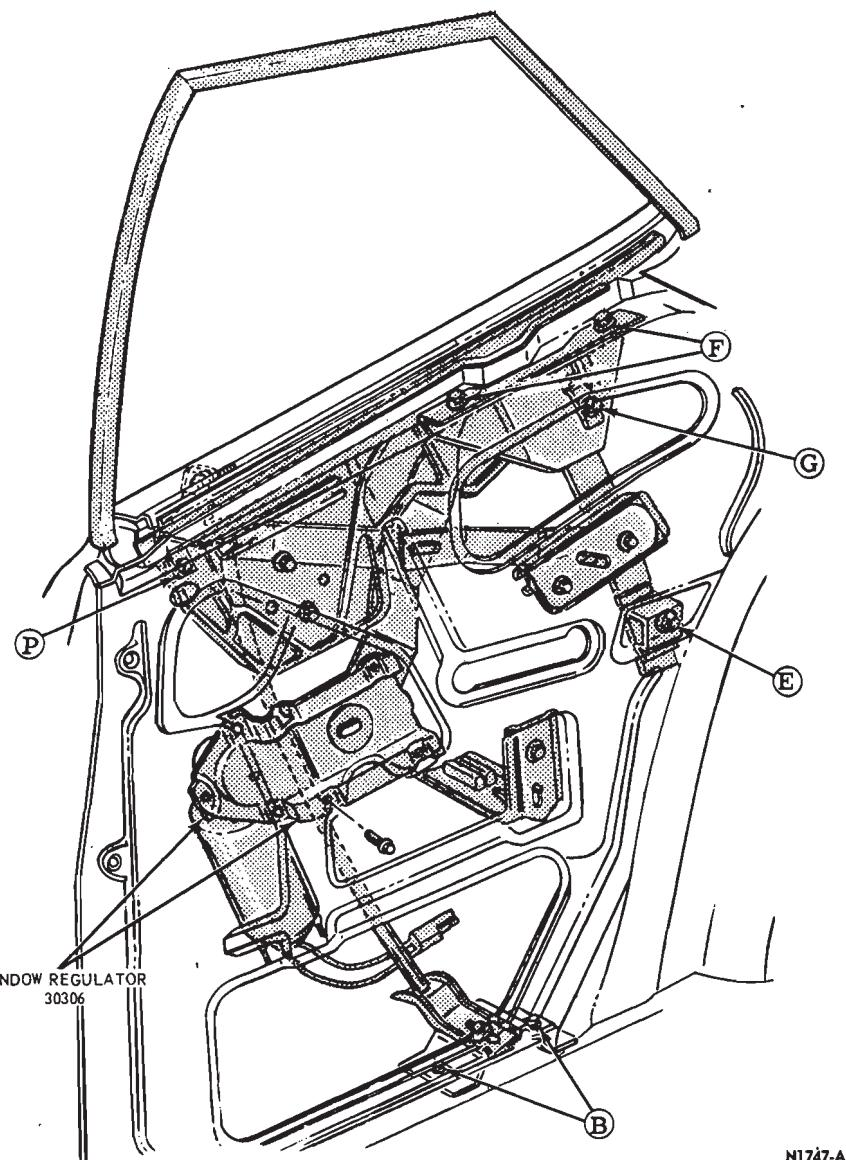

FIG. 5—Quarter Window Adjustment—Ford, Mercury and Meteor Model 63
2. Loosen items B, E, F, G, and P (Fig. 5).
4. Position the quarter glass forward or rearward to obtain a parallel fit between the quarter glass and the door glass. Then, tighten the screws (Items B and F, Fig. 5) securely.